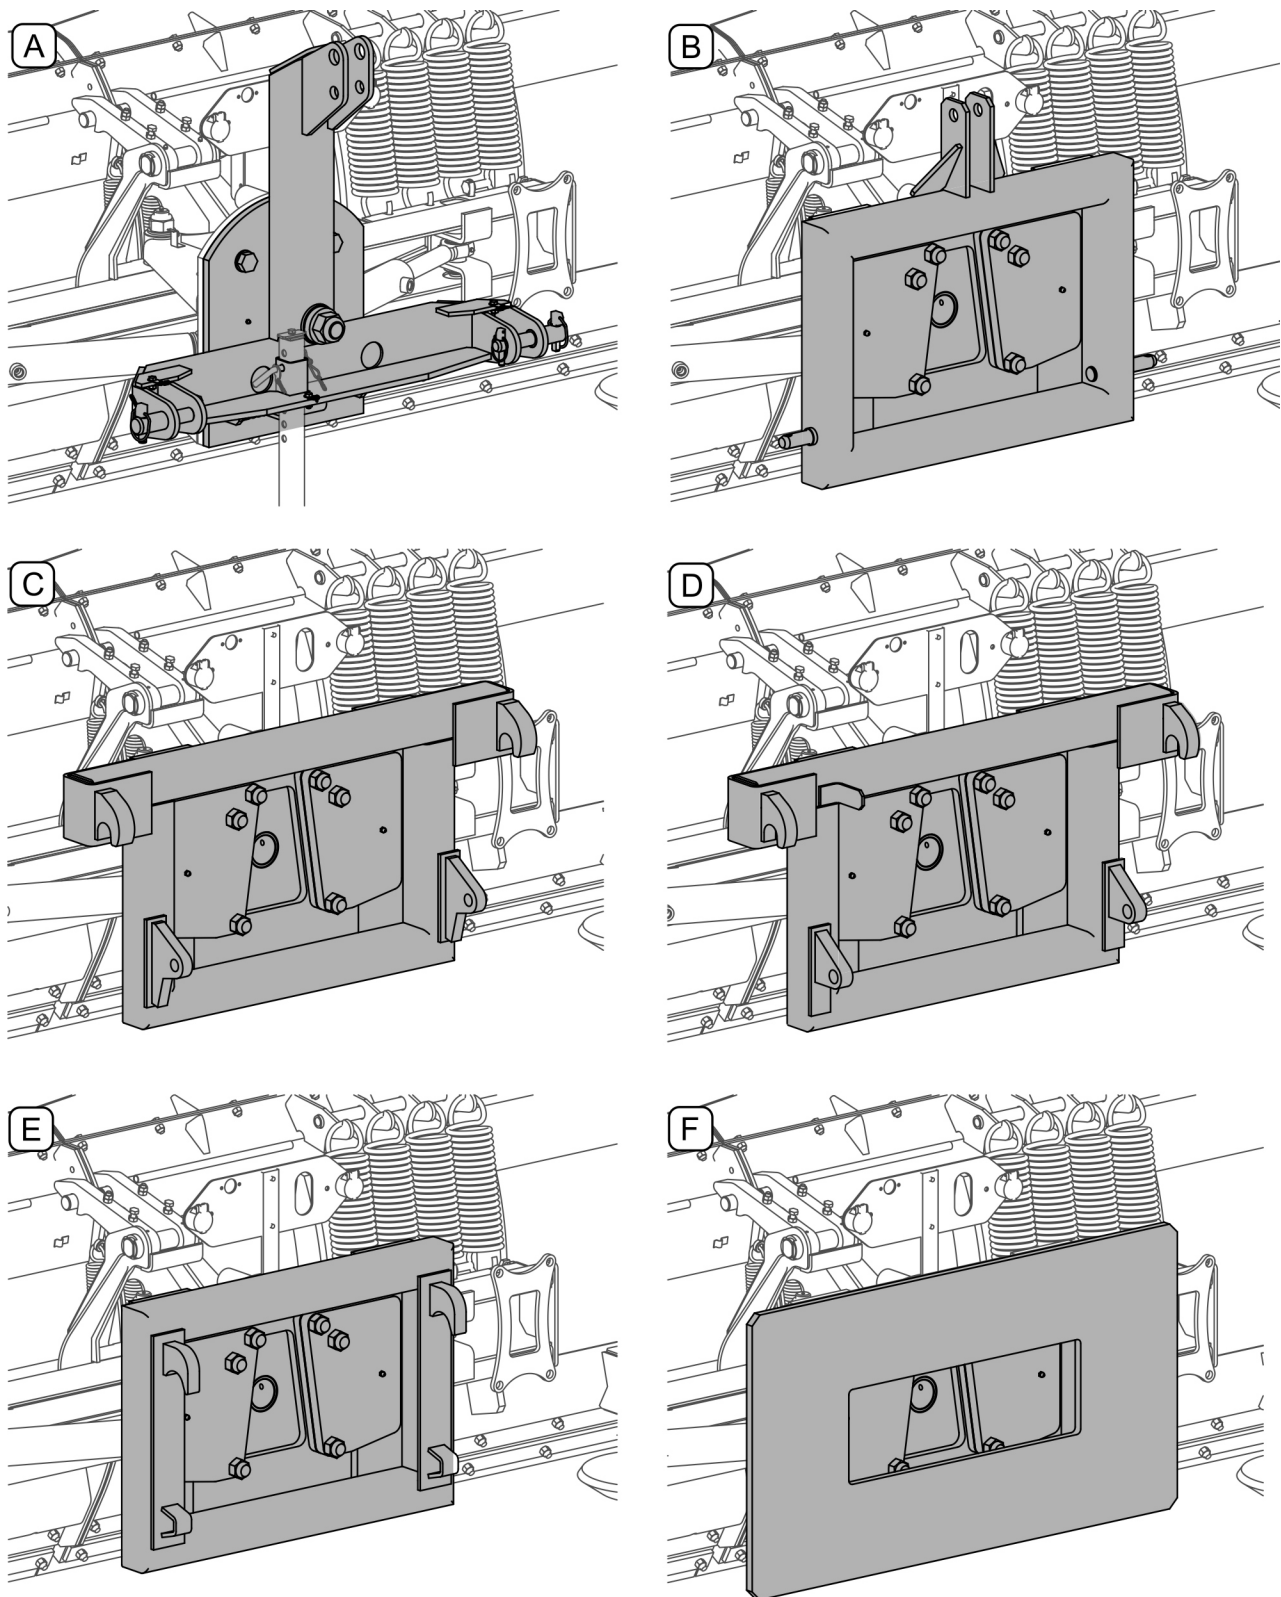

FIGURE 4.1 Types of linkage systems
rests on the ground on two slides (11) or wheels (12), whose height can be adjusted. Parking stand (13) is used to support the plough when it is disconnected from the carrying vehicle. Optionally, the plough can be equipped with different linkage systems such as attaching to LC-1650 front loader or EURO-mount, three-point linkage cat II (*swing*) (FIGURE 4.1)
Plow equipped with a hitching system A (FIGURE 4.1) should be mounted only to the carrying vehicle equipped with a floating section linkage.